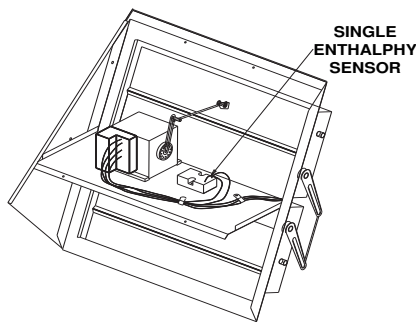
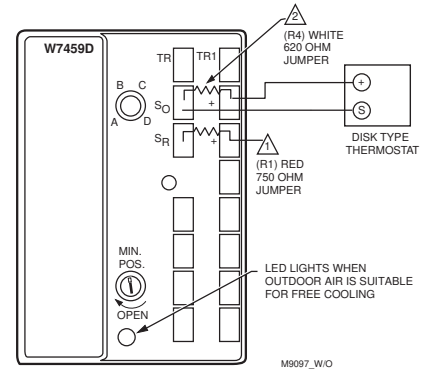
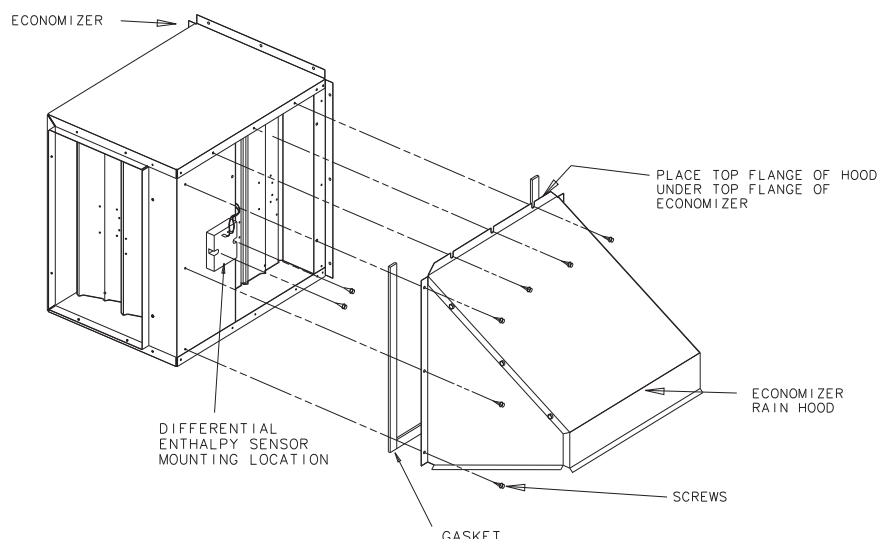

Figure 1.
Figure 3. Control module before installation
Figure 6.
3. Next, disconnect the wires 56A and 50A(YL) from the thermostat.
4. Using the two screws removed in step 2, mount the Enthalpy sensor in the thermostat's previous location, Figure 1.
5. Connect wire 56A to S and 50A(YL) to + terminals on the Enthalpy Sensor.
6. On the Control Module (Solid State Economizer Logic Module) attached to the Economizer Motor, remove the red resistor from terminals SR and + and discard. See Figure 3.
4. Using the two screws removed in step 2, mount the Enthalpy sensor on the outside face of the economizer. See Figure 6.
5. Connect wire 56A to S and 50A(YL) to + terminal on the Enthalpy sensor.
6. Remove the filter access panel on the return side of the unit reach into the Control Module attached to the Economizer Motor, remove the red resistor from terminals SR and + and discard. See Figure 3.
2. Mount the second enthalpy sensor in the return air stream. See Figure 6.
3. Disconnect the wires 182A(YL) and 183A(YL) from the thermostat.
4. Locate bushing supplied with kit and pull wires 182A(YL) and 183A(YL) through bushing. Snap bushing into the hole where the thermostat was removed.
5. Connect wire 182A(YL) to S and 183A(YL) to + terminals on the Enthalpy Sensor.
7. On the Control Module (Solid State Economizer Logic Module) attached to the Economizer Motor, remove the red resistor from terminals SR and + and discard. See Figure 3.